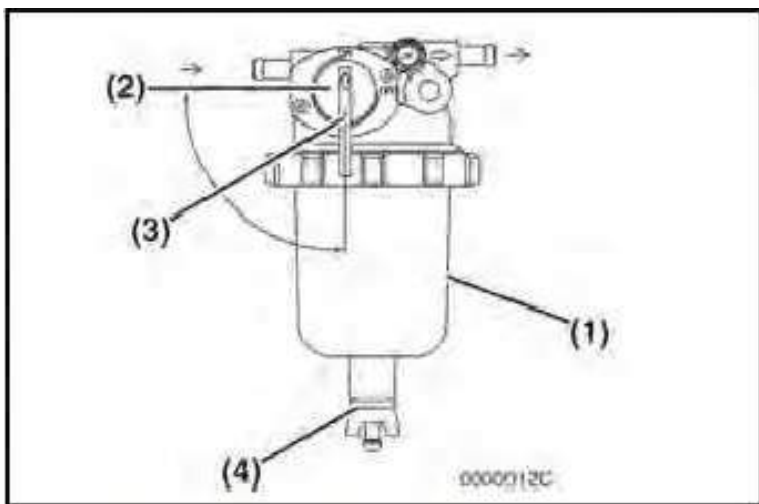

Figure 5-7
1. Position an approved container under the fuel filter / water separator (Figure 5-7, (1)) to collect the contaminants.
2. Close (Figure 5-7, (2)) the fuel cock (Figure 5-7, (3)).
3. Loosen the drain cock (Figure 5-7, (4)) at the bottom of the fuel filter / water separator. Drain any water collected inside.
5. Open the fuel cock (Figure 5-7, (3)).